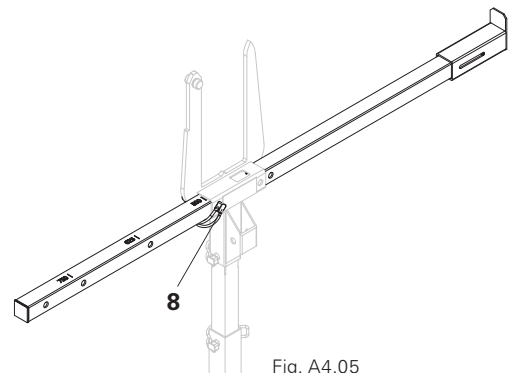

Fig. A4.05
4. Secure using the tube linch pin (8). (Fig. A4.05)